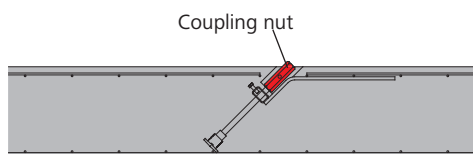

Fig. 16.2
2. Screw the coupling nut onto the tie rod. Screw it as far as it will go (Fig. 16.2)